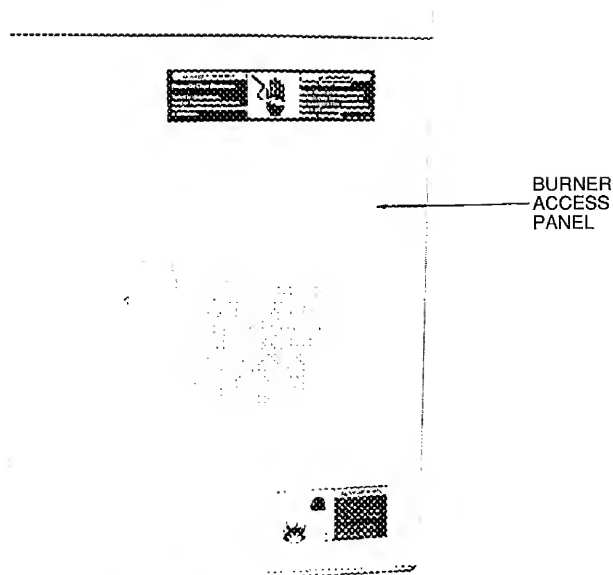

Fig. 32 — Burner Access Panel
1. Remove burner access panel. (See Fig. 32.)
3. Remove burner access panel. (See Fig. 32.)